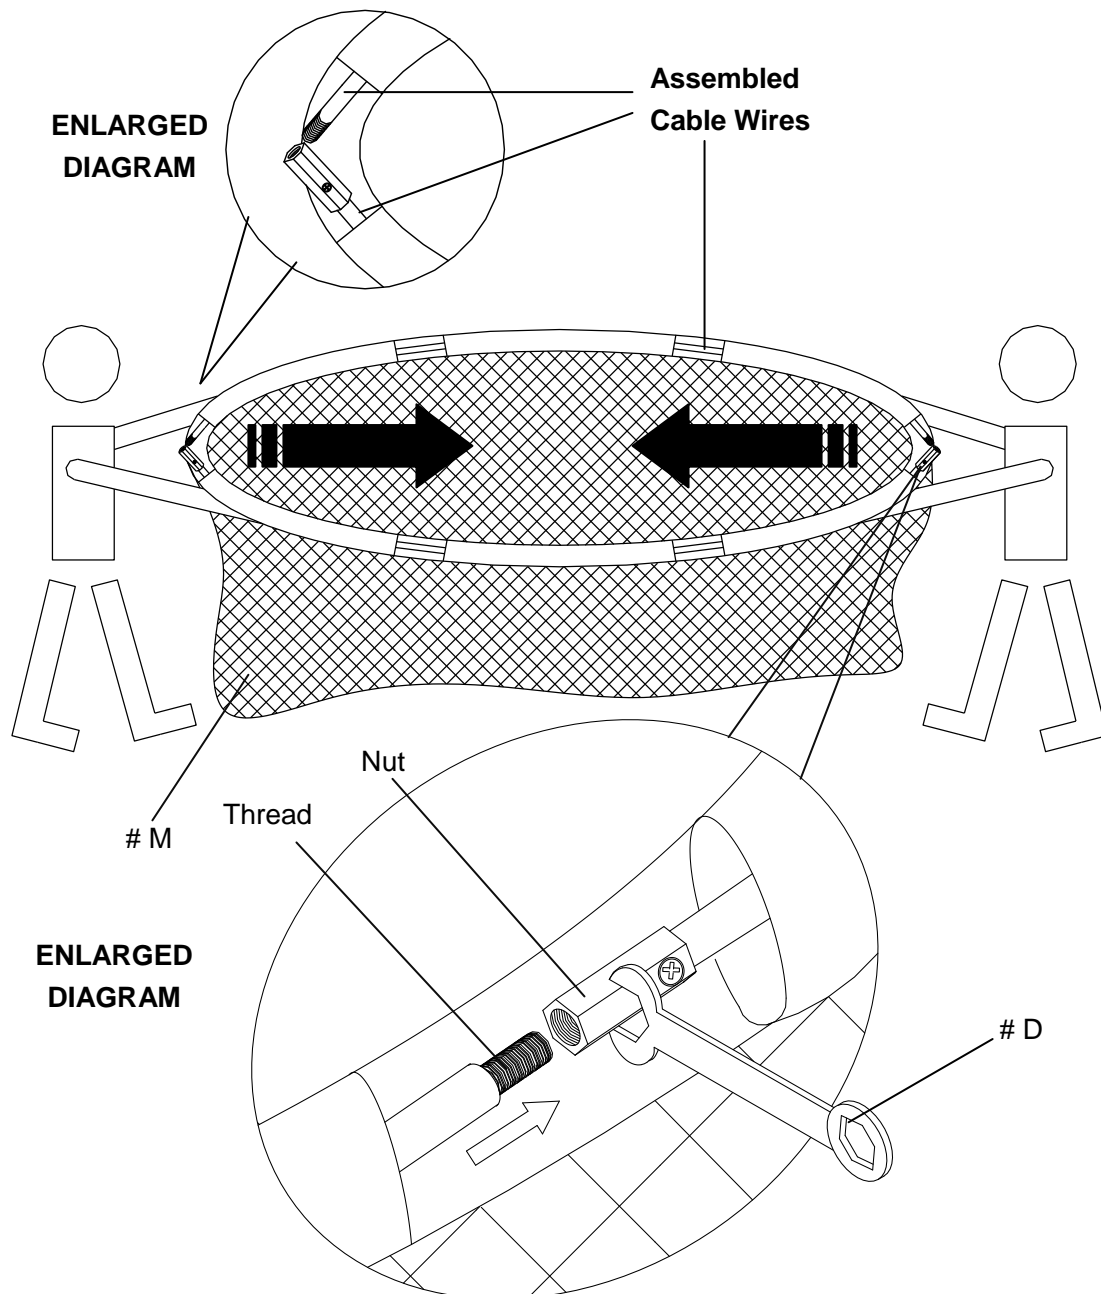

FIGURE 22
- F. Two people will be needed to complete this step. Slide the 2 assembled Cable Wires through the sleeve at the top of the Enclosure Netting (# M) as shown in FIGURE 22 and then connect the two ends of the assembled Cable Wires together using Wrench (# D).